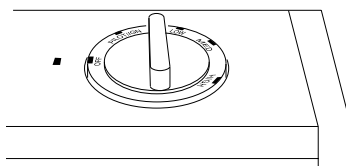

Figure 18 - Control Knob In The OFF Position
5. Press in and turn control knob counterclockwise to PILOT/IGN position. Press in control knob for five (5) seconds (see Figure 18).